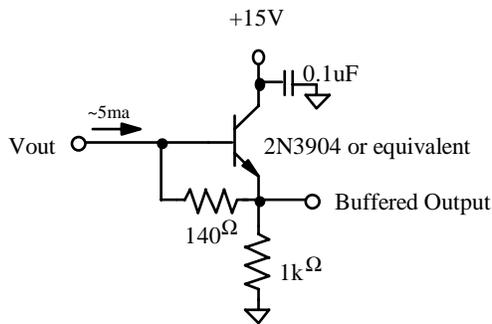

Figure 4 - Recommended Output Structure Load Diagram
Charge presented to the floating diffusion (FD) is converted into a voltage and current amplified in order to drive off-chip loads. The resulting voltage change seen at the output is linearly related to the amount of charge placed on FD. Once the signal has been sampled by the system electronics, the reset gate (ϕR) is clocked to remove the signal and FD is reset to the potential applied by V_{rd} . More signal at the floating diffusion reduces the voltage seen at the output pin. In order to activate the output structure, an off-chip load must be added to the V_{out} pin of the device - see Figure 4.